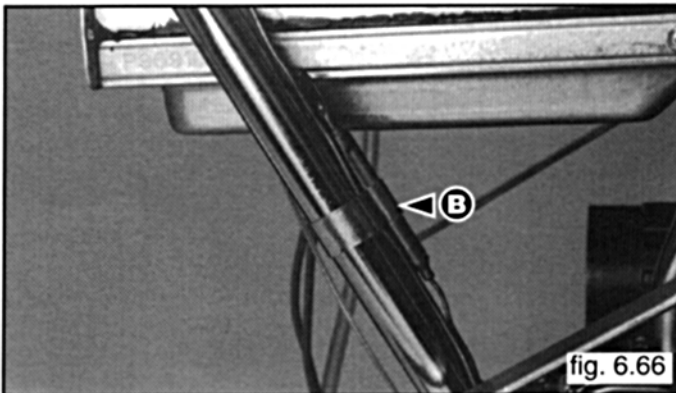

fig. 6.66
- 6 Remove spring "B" (see fig.6.66);